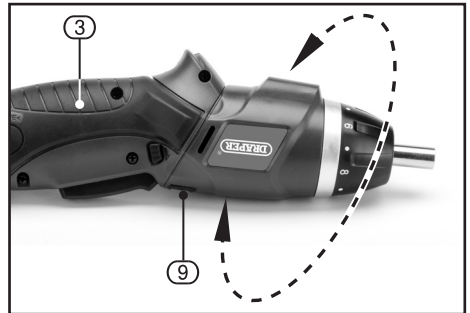

FIG.5
9.3 ADJUSTING THE HANDLE POSITION – FIG. 5